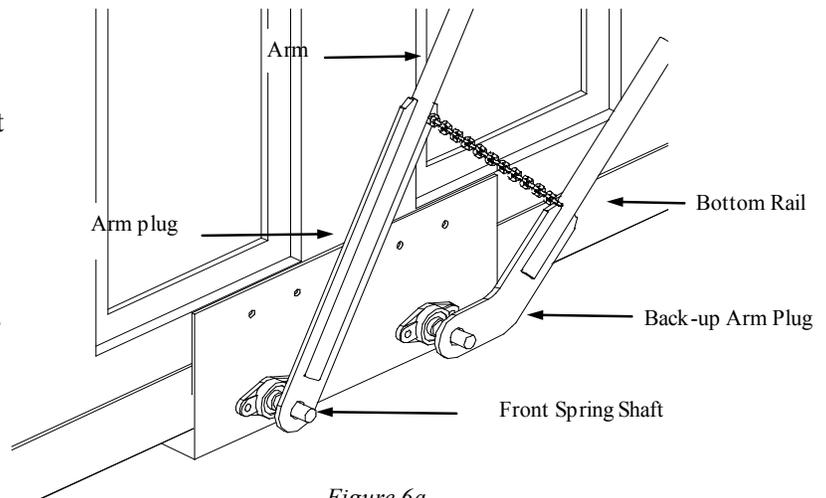

Figure 6a
**Connecting the arms to the spring shaft (continued).** After the arms are cut, the next step is to connect them to the spring shaft, *see figure 6a*. First slide the arm connector onto the front spring shaft and slide the arm onto the pipe on the arm connector (Note: the arm and connector should be pointing toward the rear of the trailer with the end of the arms resting on the ground). Slide the arm until it is against the plug on the connector, then use a  $3/8''$  drill bit to drill a hole through the arm and the pipe on the connector and fasten using a  $3/8'' \times 2-1/2''$  hex bolt,  $3/8''$  flat washers, and a  $3/8''$  nut.
*Connecting back-up arm and connector.* After the arms have been connected to the front spring shaft and the crossover has been installed, the next step is to install the back-up arm system. Slide the back-up arm connector onto the rear spring shaft, then weld the loose end of the chain on the back-up arm to the main arm, *see figure 6a*. Next rotate the back-up arm connector on the shaft until the chain is strait then apply three to four hours of tension to the back-up arm using the same method as on the main arm.